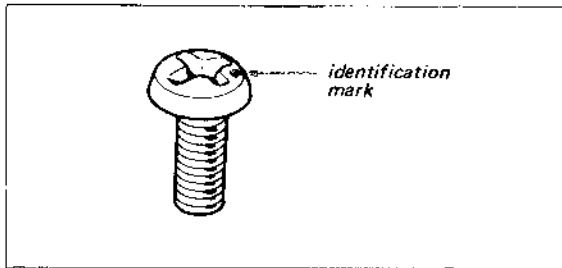

Fig. 2-1. ISO screw
**Note:** All screws in the STR-110 are manufactured to the specifications of International Organization for Standardization (ISO). This means that the new and old screws are not interchangeable because ISO screws have a different number of threads per mm compared to the old ones. The ISO screws have an identification mark on their heads as shown in Fig. 2-1.